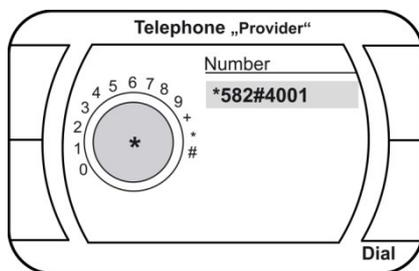

Fig. 71
4. After entering the code please press **DIAL** (Fig. 71)